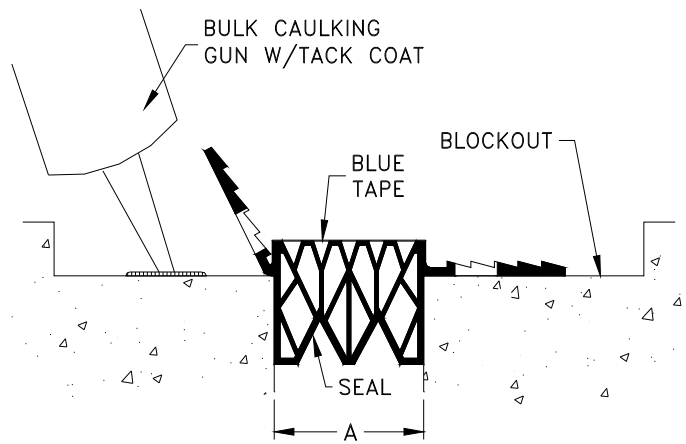

Figure 7
- STEP 8.** Using a bulk-caulking gun, immediately shoot the Balco Tack Coat - TC12 under the wings (see Figure 7). Place enough liquid so that it rises through the perforations in the wings. Push the wings down, if necessary, into the bonding liquid, then strike off excess material that has risen through the holes. It is important that the wings lie flat in the blackout.